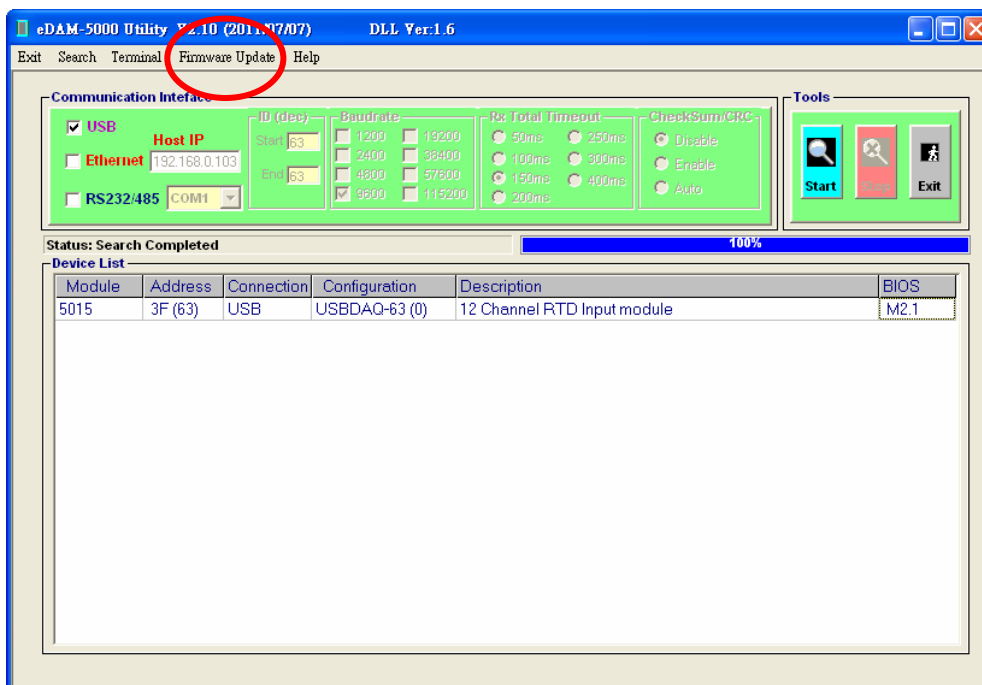

Figure 15-4
- Click **"Firmware Update"** in the menu bar (see Figure 15-4)